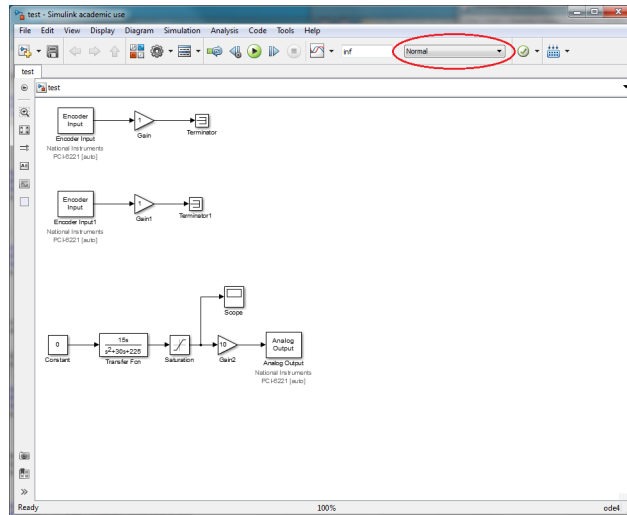

Figure 24: The Simulink model in Normal mode.
1. **Normal mode** (see Figure 24).